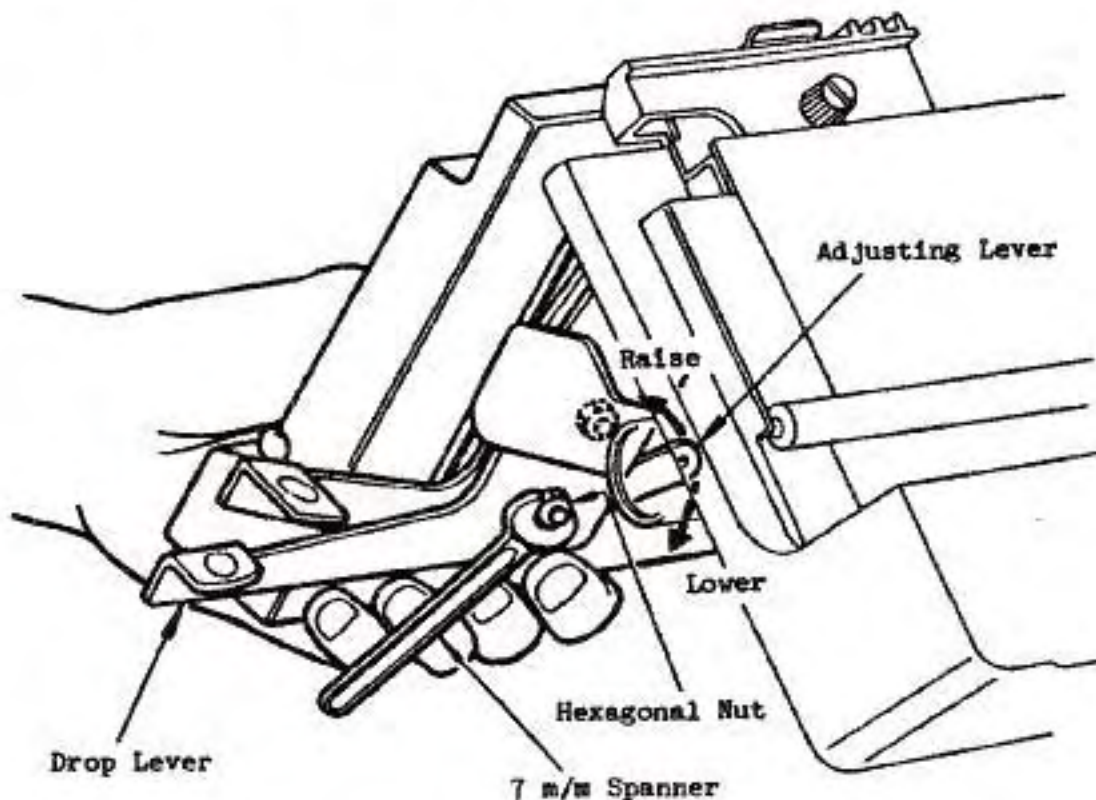

Fig. 17
Note: Be sure to hold the Ribber with your hand as indicated in Fig. 17, or else the Ribber will drop.
2. After loosening the hexagonal nut, adjust the position by moving the Adjusting Lever in the direction of the arrow as shown in Fig. 17.